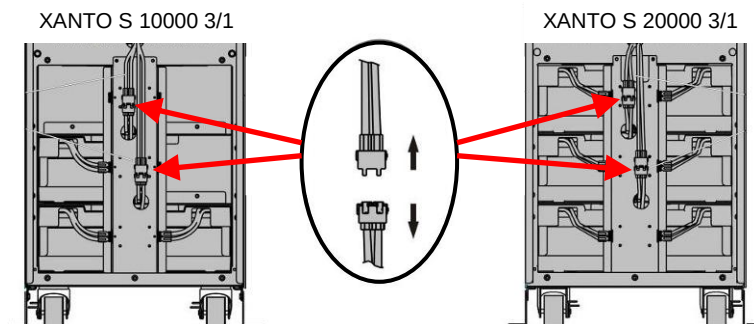

Figure 8: Disconnecting the internal battery module inserts
10. Disconnect the internal battery module inserts (see Figure 8).